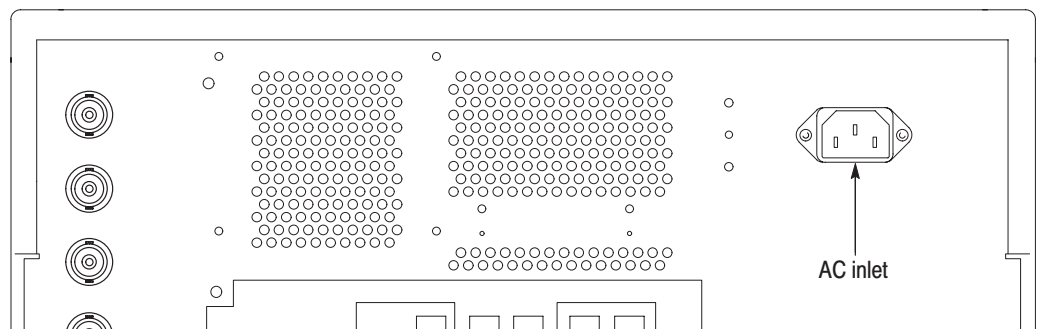

Figure 1-2: AC connector (rear panel)
- Power Cord** Insert the supplied power cord into the rear panel AC connector (see Figure 1-2).